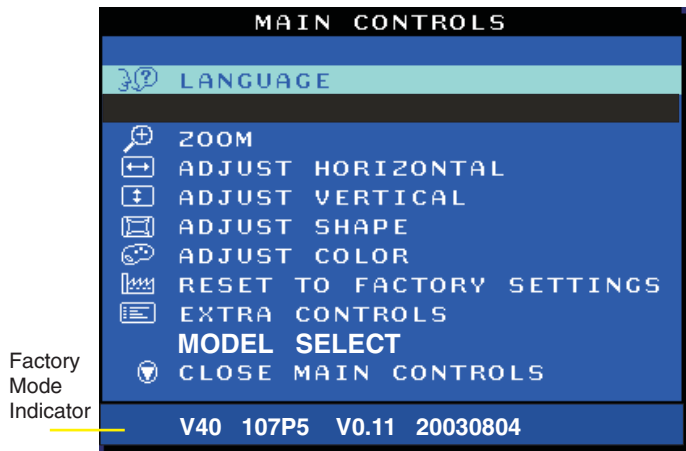

Fig. 2.1
- Press " " and " " simultaneously on the front control panel, then press " ", wait till the OSD menu with characters V40 107P5 V0.11 20030804 (below OSD menu) comes on the screen of monitor as shown in Fig. 2.1.